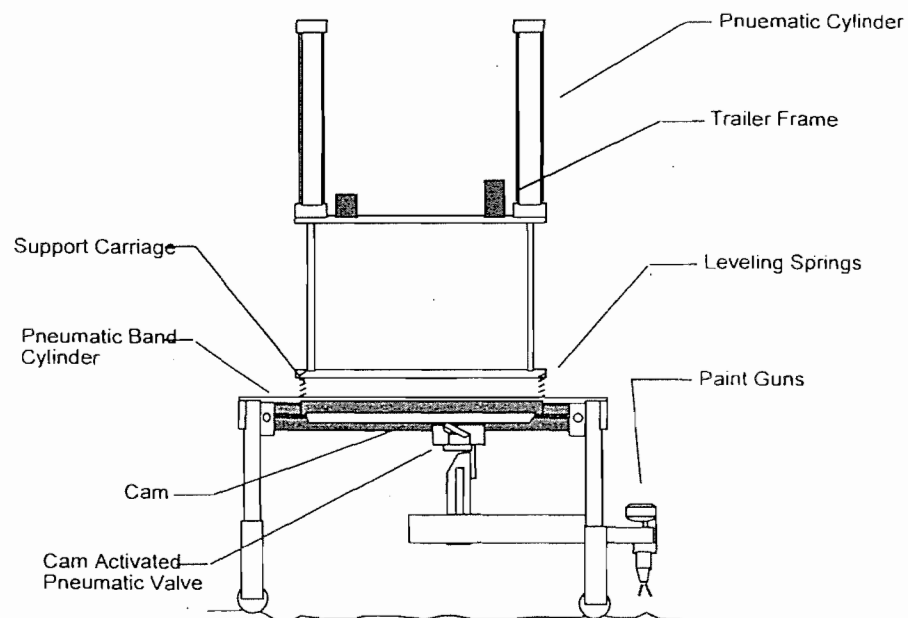

Figure 2.10.2: Roller Cam Location on LFN
2.10.21 Locate the roller cam valve for each of the guns (Figure 2.10.2). Depressing the cam valve will open the paint gun. Depress each one until paint flows freely from the gun outlet.